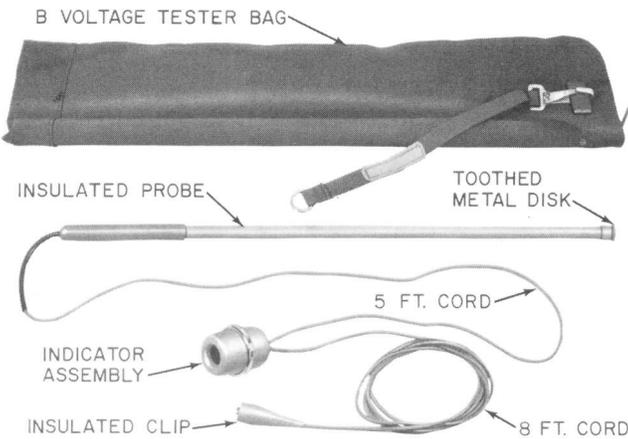

Fig. 1—B-Voltage Tester
2.01 B-Voltage Tester: The B-Voltage Tester (Fig. 1) is designed to detect the presence of voltages from 60 to 7200 volts. It consists of an indicator assembly with a small neon globe unit and reflector, and a plastic-insulated probe. The probe is equipped with a toothed metal disk on one end for making contact to a conductor, conduit, street light fixture, or any other object to be tested. The probe is designed to limit the amount of current which can pass through the device.